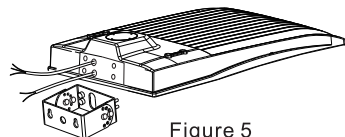

Figure 5
- Step 1: Remove the mounting screws on the fixture and run the wires through the mounting. (Figure 5)